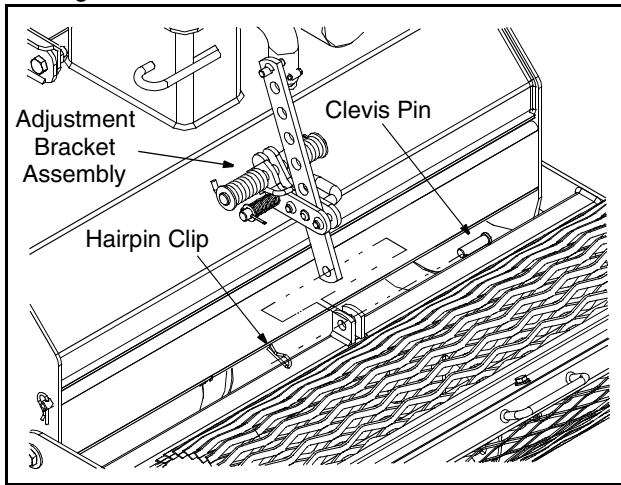

Figure 5
- Pivot the roller assembly upward and reattach it to the lower portion of the lock pivot plate with the clevis pin and hairpin clip removed earlier. See Figure 5.